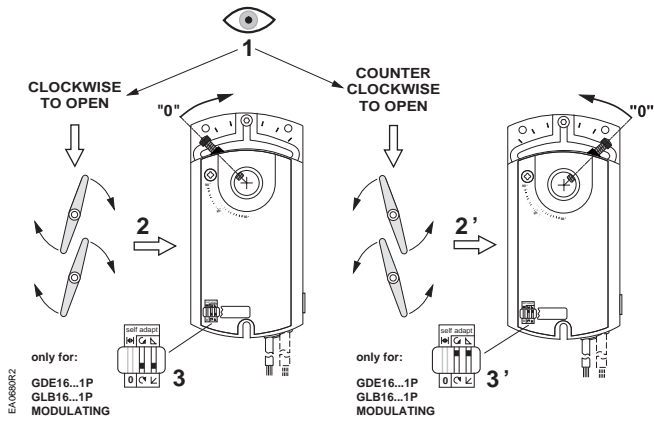

Figure 2. Setting the Direction of Rotation.
1. Determine whether the damper blades will rotate clockwise or counterclockwise to open. See Figure 2.
1. To access the DIP switches, raise the tab on the lower left side of the actuator. See Figure 2. The factory setting is clockwise (middle switch), with a direct-acting feedback signal (right switch).